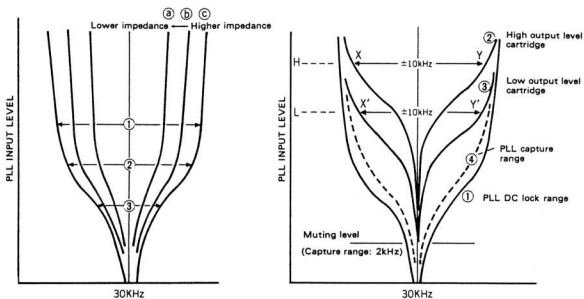

Figure 13. PLL Input Level vs. Lock Range
3. When the reproduced wave form becomes a sine wave (Figure 13) irrespective of the R001 position, FET X209 may be regarded as being open.
The operation of the difference signal demodulation circuit will be explained taking the left channel of the Model CD-400 demodulator as an example (see attached circuit diagram). The 30kHz carrier modulated by the difference signal is transmitted to X201 after having been amplified by the 1/2 equalizer. The base circuit of X201 incorporates an active high pass filter with 20kHz cut-off which removes the sum signal at 12dB/oct. The sum signal component which was left unremoved here can be removed by the highly selective PLL which was designed so as to be locked only to the carrier component. There is an attenuator formed by R211 (=15 kohms) and R217 (=560 ohms) at the PLL input. The gain between PHONO input and PLL was designed to be 25dB. X207 is a control signal amplifier stage and has, at its input, a variable resistor (R001) for 30kHz level adjustment and a high pass filter. R001 is used to obtain one of the curves (2) or (3) in Figure 13 according to the cartridge used. The control signal of the FET forms a negative voltage which is rectified after amplification by X207. The source-drain resistance  $R_{DS}$  becomes open at a gate voltage of -1.5V. Starting at this voltage, the negative voltage becomes smaller as the input signal decreases.